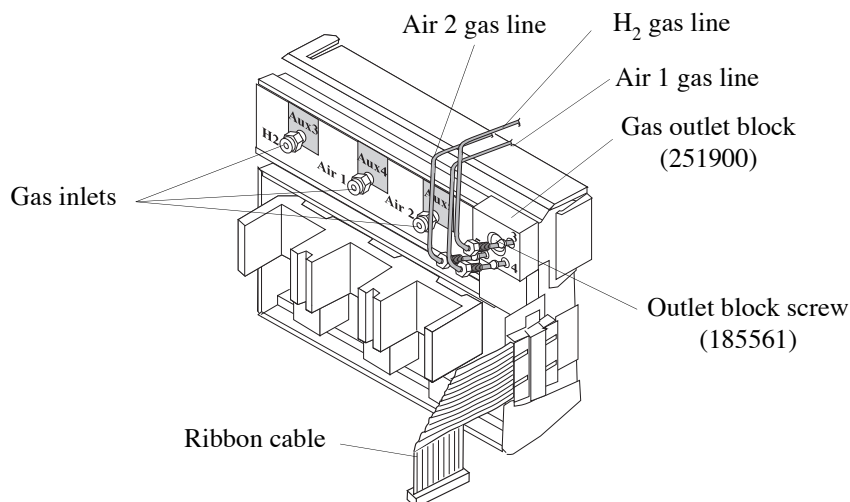

Figure 4.33. Auxiliary EPC manifold and Aux EPC mixing assembly
- Remove the Agilent gas outlet block attached to the front upper right corner of the auxiliary EPC manifold (Figure 4.33) by unscrewing the Torx T-20 screw (PN 185561). Carefully remove the three 30-mL/min cylindrical restrictors (marked with a red dot) and O-rings from the back of the Agilent gas outlet block.
- Place two of the Agilent 30-mL/min restrictors and O-rings in the number 4 and 5 gas outlets on the OI gas outlet block (PN 251900). The gas outlet numbers are inscribed on the front of the gas outlet block (Figure 4.33). Place the third O-ring over the supplied 10-mL/min restrictor (PN 290601) and insert the restrictor into the number 3 gas outlet of the OI gas outlet block. With all three restrictors and O-rings in place, reattach the Agilent gas outlet to the OI gas outlet block with the previously removed T-20 Torx screw.
- Attach the H₂ label immediately to the left of the Aux 3 gas connector, the Air 1 label to the left of the Aux 4 connector, and the Air 2 label to the left of the Aux 5 connector on the front of the auxiliary pressure control manifold (Figure 4.33).
- Remove the protective caps from the Aux 3 (H₂), Aux 4 (Air 1), and Aux 5 (Air 2) gas inlet connectors on the front of the auxiliary EPC manifold (Figure 4.33).